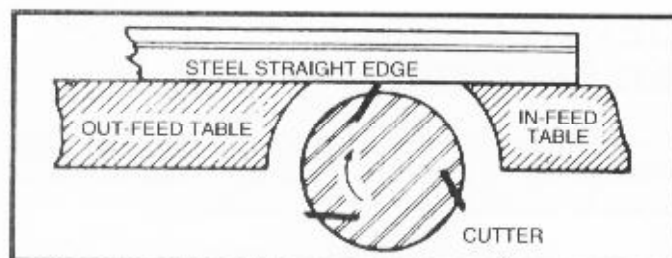
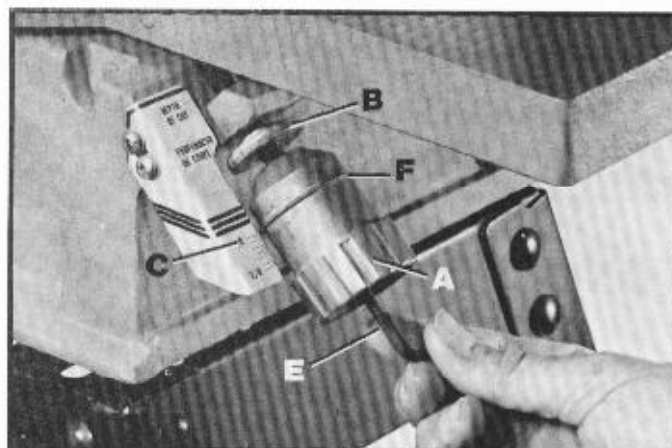

Fig. 20
Fig. 21
8. After being certain all knives are level with the out-feed table, place the straight edge on the out-feed table and extend it over the in-feed table as shown in Fig. 20.
9. Turn the adjusting knob (A) Fig. 21, clockwise and move the in-feed table up until it touches the straight edge, as shown in Fig. 20. The ring (F), on knob (A) Fig. 21, should line-up with "zero" on the depth-of-cut scale (C).
10. If the ring (F), on adjusting knob (A) Fig. 21, does not line up with "zero" on the depth-of-cut scale (C), make the following adjustments.
- (a) Loosen set screw with wrench (E), inside adjusting knob (A), Fig. 21 as shown.
- (b) Turn knob clockwise or counter-clockwise as required to line-up ring on the adjusting knob (A) Fig. 21, with "zero" on the depth-of-cut scale (C).
- (c) Tighten set screw with wrench (E) Fig. 21.